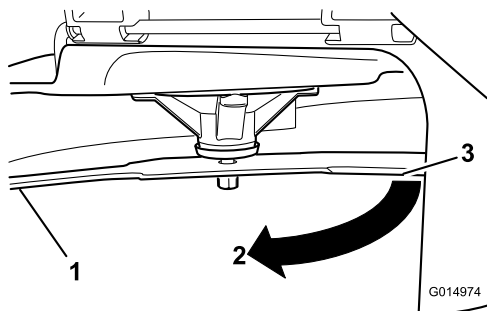

Figure 109
3. Measured distance between blade and the surface (A)
4. Rotate the same blade 180 degrees so that the opposing cutting edge is now in the same position (Figure 109).